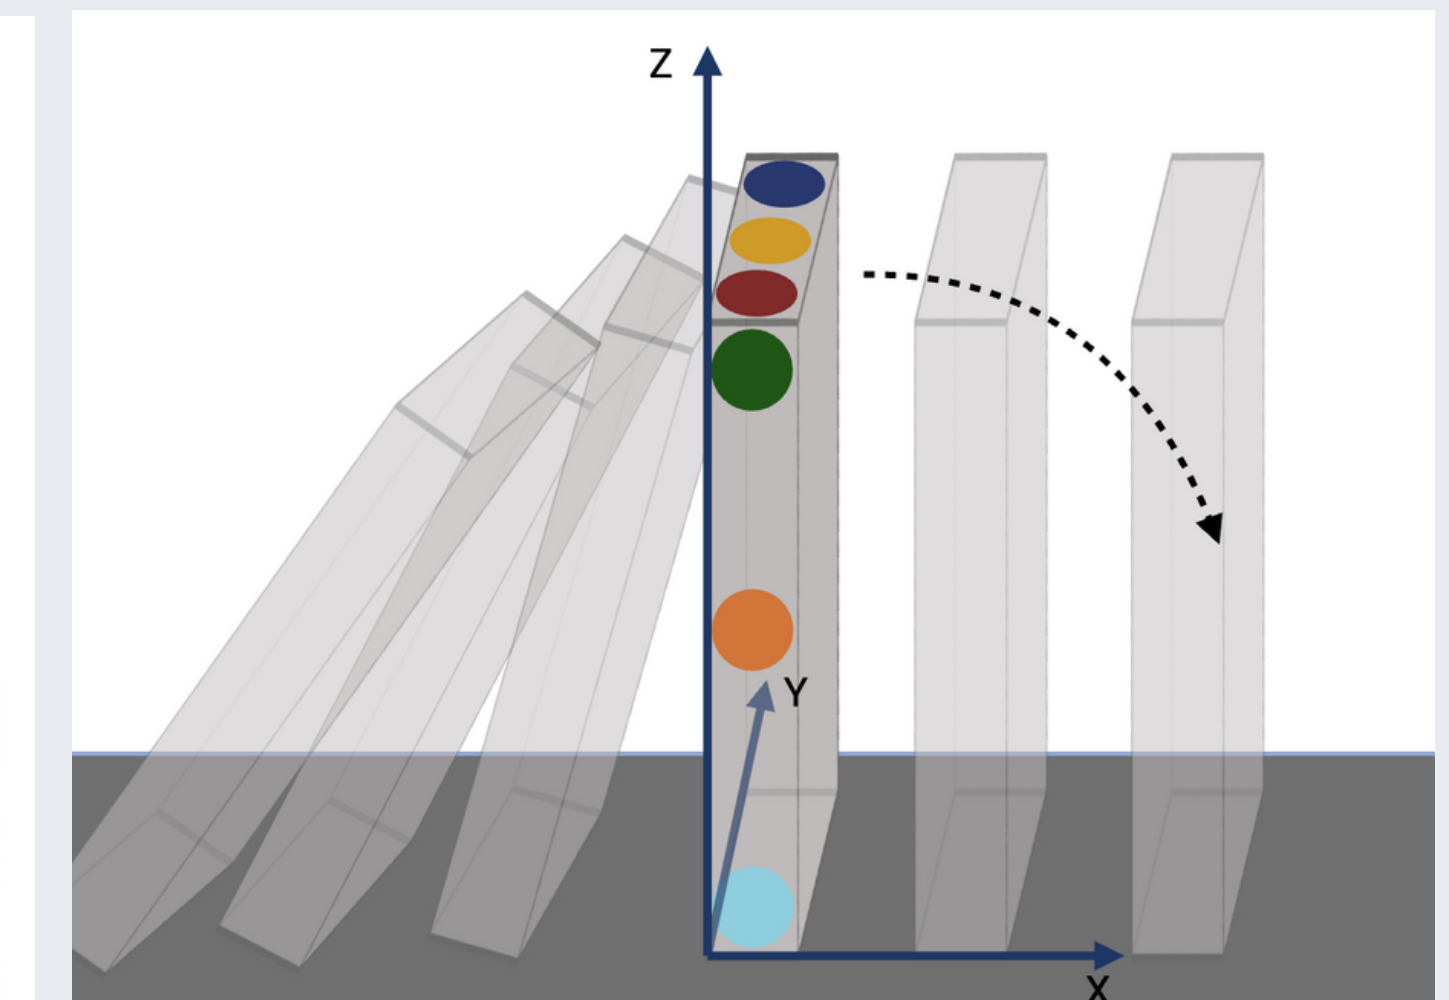

Fig. 3.3 Color marker labels with reference frame orientation used in the model.
- How does off-plane rotation (i.e. around the z axis in Figure 3.3) affect system stability?